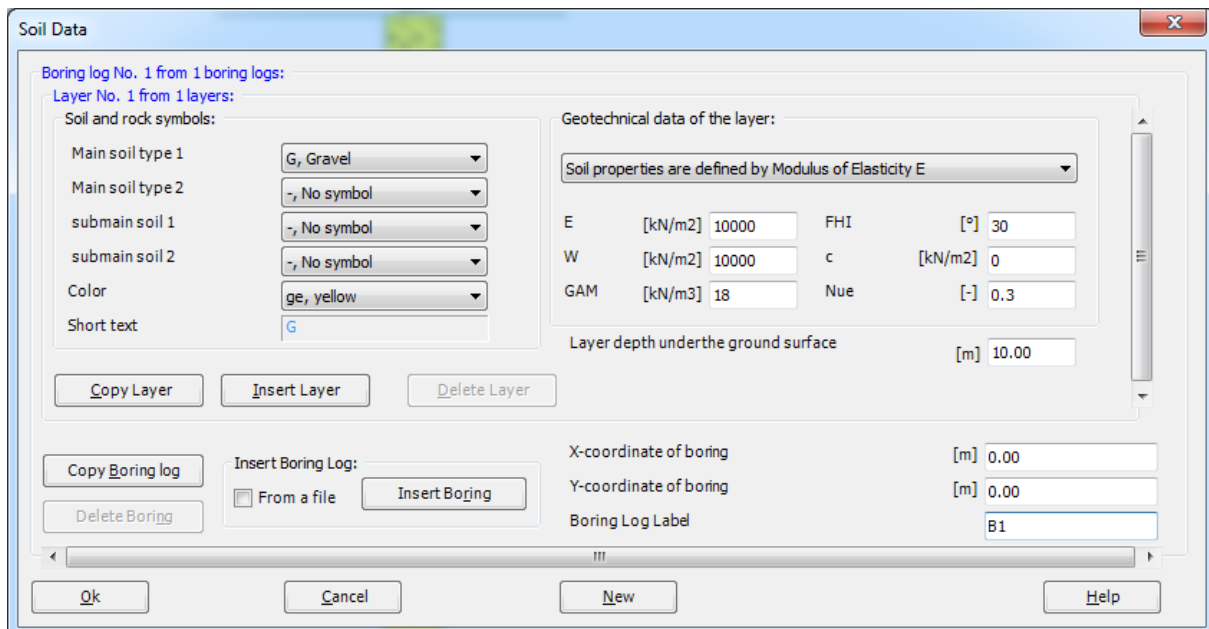
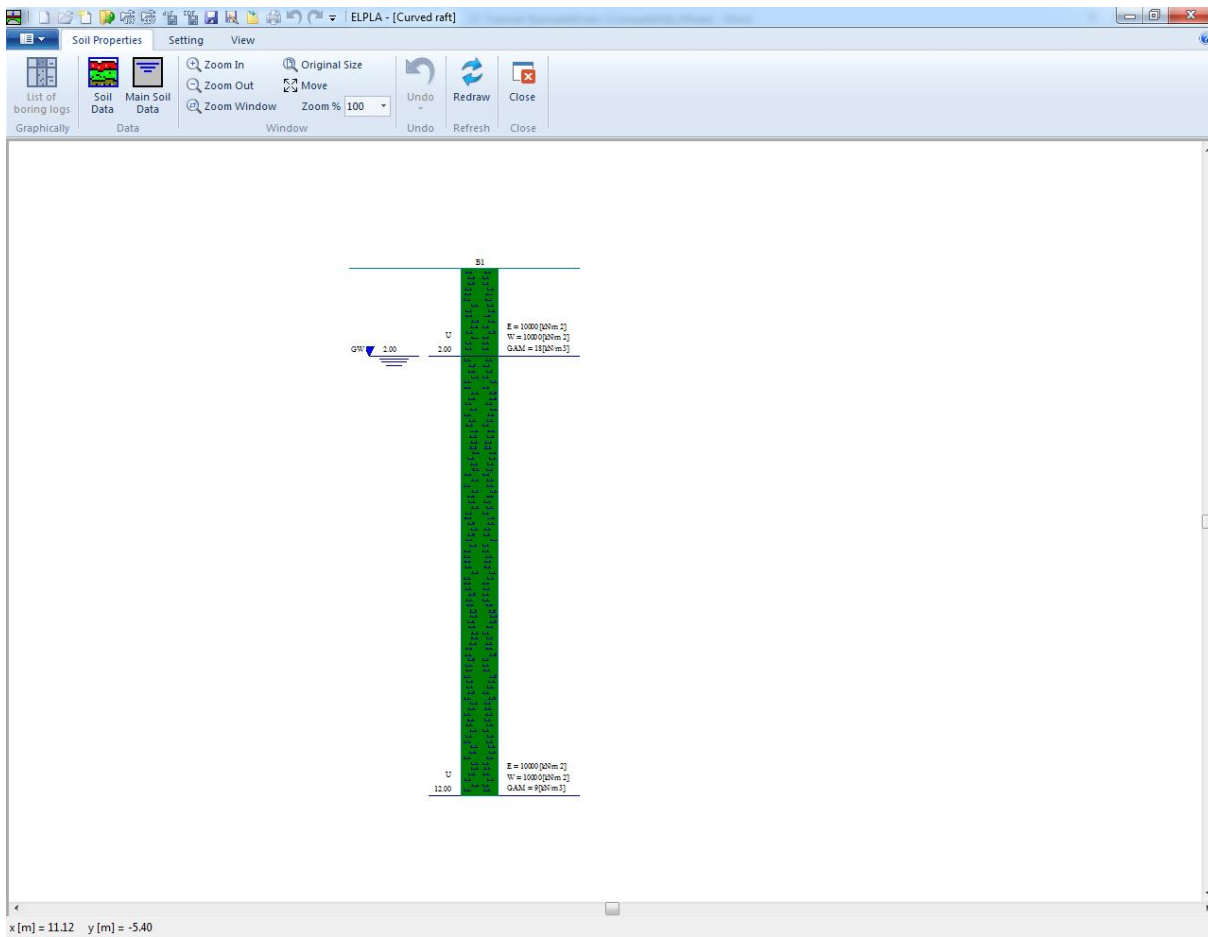

Figure 10.21 "Soil data" dialog box with default-boring log data
Figure 10.23 Boring log
The following dialog box in Figure 10.21 with default-boring log data appears
In the "Geotechnical data of the layer" dialog group box in Figure 10.21, define the geotechnical data of the first soil layer of the boring log as follows:
To define the soil type and color for the first layer, select "U, Silt" as the soil type in "Main soil type 1" combo box in "Soil and rock symbols" dialog group box, Figure 10.21. The color of the silt according to the German Standard DIN 4023 will be automatically created. The user can change this color. In addition, a short text "U" will be automatically created for the silt.
- Click "Copy Layer" button in "Soil Data" dialog box in Figure 10.21. A layer that has the same properties of the first layer will be copied
Now all data and parameters for the boring log have been entered. After finishing the creation of the boring log, click "OK" button in "Soil Data" dialog box in Figure 10.21 to see the defined boring log where the user can control or modify the input data and parameters, Figure 10.23.
- Choose "Save" command from "File" menu in Figure 10.23 to save the data of the boring log
- Choose "Close" command from "File" menu in Figure 10.23 to close the "Soil Properties" window and to return to *ELPLA* main window.